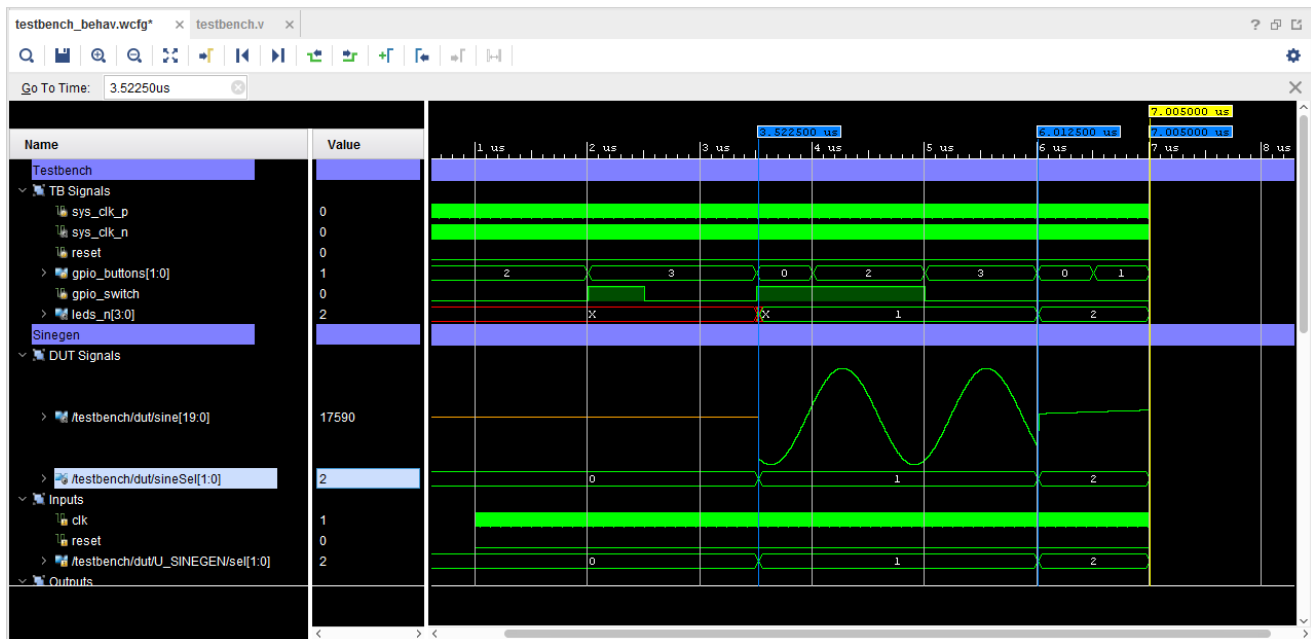

Figure 24: Using Markers
1. In the Waveform window select the `/testbench/dut/sineSel[1:0]` signal, as shown in Figure 24.
With markers identifying the transitions on `sineSel`, the Waveform window should look similar to Figure 24. As previously observed, the low frequency signals are incorrect when the `sineSel` signal value is 0.